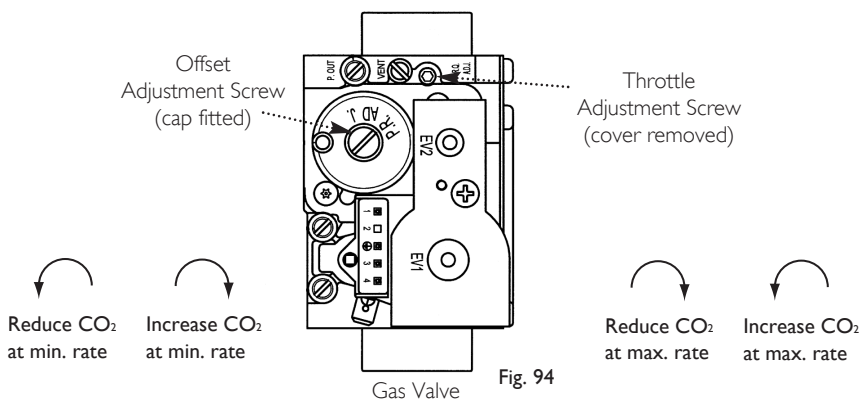

Fig. 94
8. It is possible to alter the CO₂ by adjustment of the gas valve. Remove the plastic cover from the Throttle Adjustment Screw. At maximum rate the Throttle Adjustment Screw should be turned, using a suitable hexagon key, until the correct reading is obtained (Fig. 94). Turning clockwise will reduce the CO₂. Anticlockwise will increase the CO₂.
10. With the boiler on minimum, the Offset Adjustment Screw must be altered, using a suitable hexagon key, after removing the cap (Fig. 94). Turning anti-clockwise will reduce the CO₂. Clockwise will increase the CO₂.